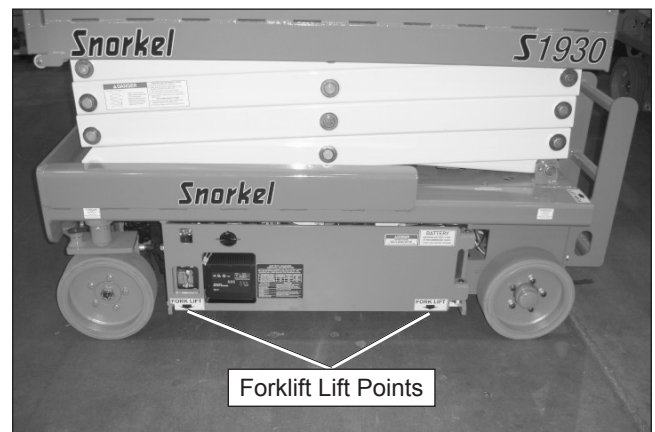

Figure 10.2 – Side of Chassis
4. If lifting from either side of the machine, place the forklift forks directly under the designated points under the pothole protector skid (refer to Figure 10.2).